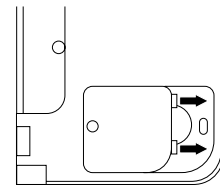

Figure 6
5. Insert the tabs on the bottom of the battery compartment cover into the slots of the battery compartment and carefully close the cover. Secure the cover in place with the screw. (Figure 6)